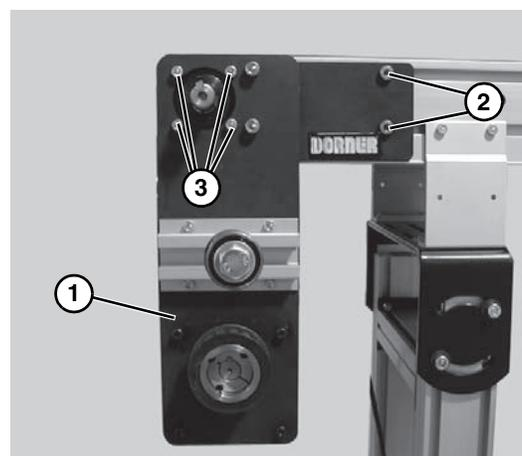

Figure 4
3. Attach bottom mount drive assembly (**Figure 4, item 1**) with two (2) M8 screws (**Figure 4, item 2**) and four (4) M6 screws (**Figure 4, item 3**). Tighten M6 screws to 146 in-lbs (16.5 N-m) and M8 screws to 288 in-lbs (32.5 N-m).